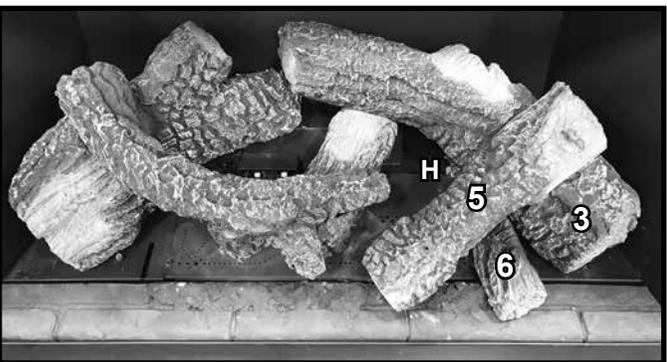

Figure 24 Log #6 Installed - Natural Bark Logs
**LOG #6:** Slide the burn out end of Log #6 between log #5 and log #3. Push the log back until it touches the firebox. The left side will touch pin H. The right side of the log touches Log #3. The log should lay flat on the burner and the front refractory. See Figures 24 and 25.